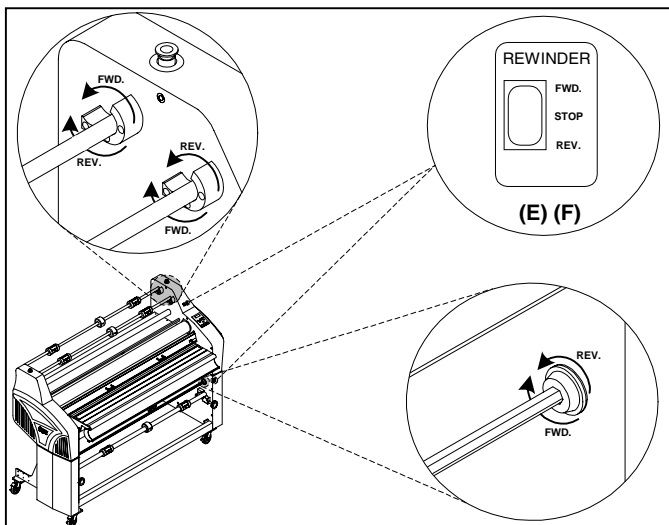

Fig. 9
**SWITCH:** (Figure 9) This switch enables the operator to control the direction of the upper rewind/unwind shafts.
**SWITCH:** (Figure 9) This switch enables the operator to control the direction of the Lower rewind/unwind shaft.